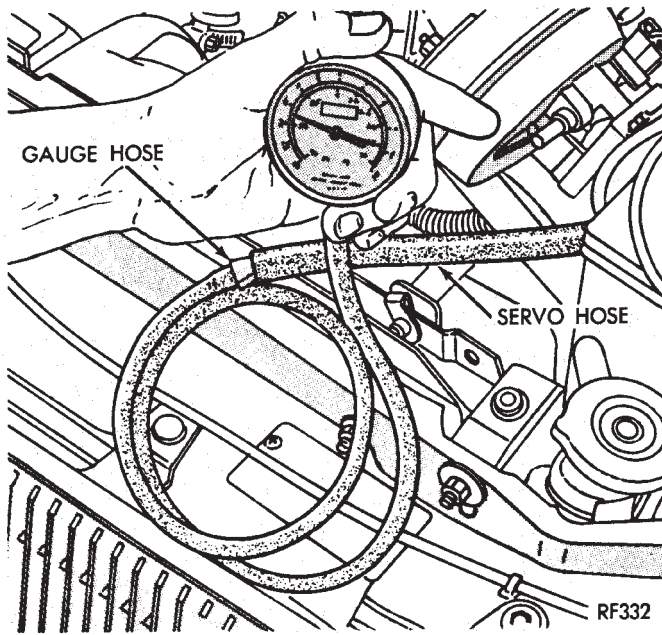

Fig. 6 Vacuum Gauge Test
(1) Disconnect vacuum hose at servo or vacuum reservoir and install a vacuum gauge in hose (Fig. 6).
(2) Start engine and observe gauge at idle. Vacuum gauge should read at least ten inches of mercury.
(3) If vacuum does not meet this requirement, check for vacuum leaks or poor engine performance.